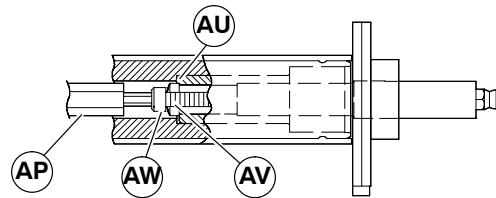

Figure 25
3. Remove retaining clip (BF) and screw (BE).
4. Insert small end of hex key wrench extension tool (AP of Figure 25) (25-08, part of tool kit 4500) into pulley end opposite outboard drive shaft.
5. Loosen and remove wave washer (AU of Figure 25), flat washer (AV) and pulley screw (AW) with hex key wrench extension tool (AP).